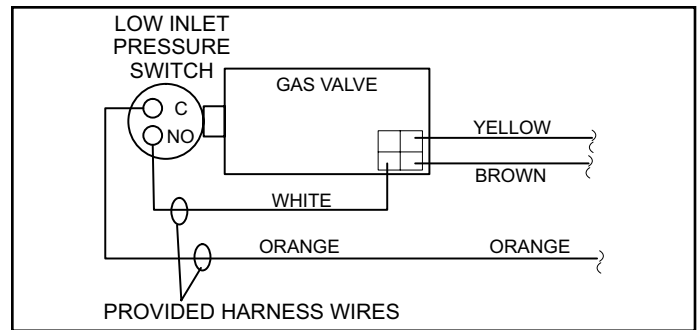

Figure 12. Low Inlet Pressure Switch Point-to-Point Wiring Diagram (White Rodgers Gas Valve)
- a. Thread pressure switch to fitting 2 to 3 turns past hand tight, then wire as shown in Figure 12.